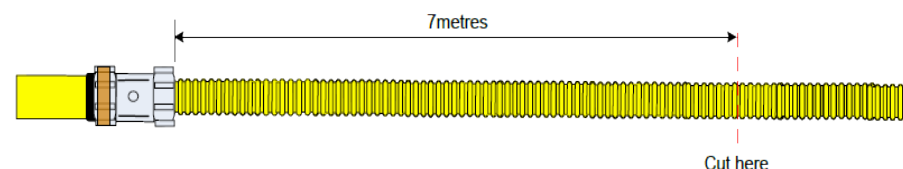

Figure 44 - Measuring the cut
4. Cut the pipe at the marked measured distance see Figure 44.